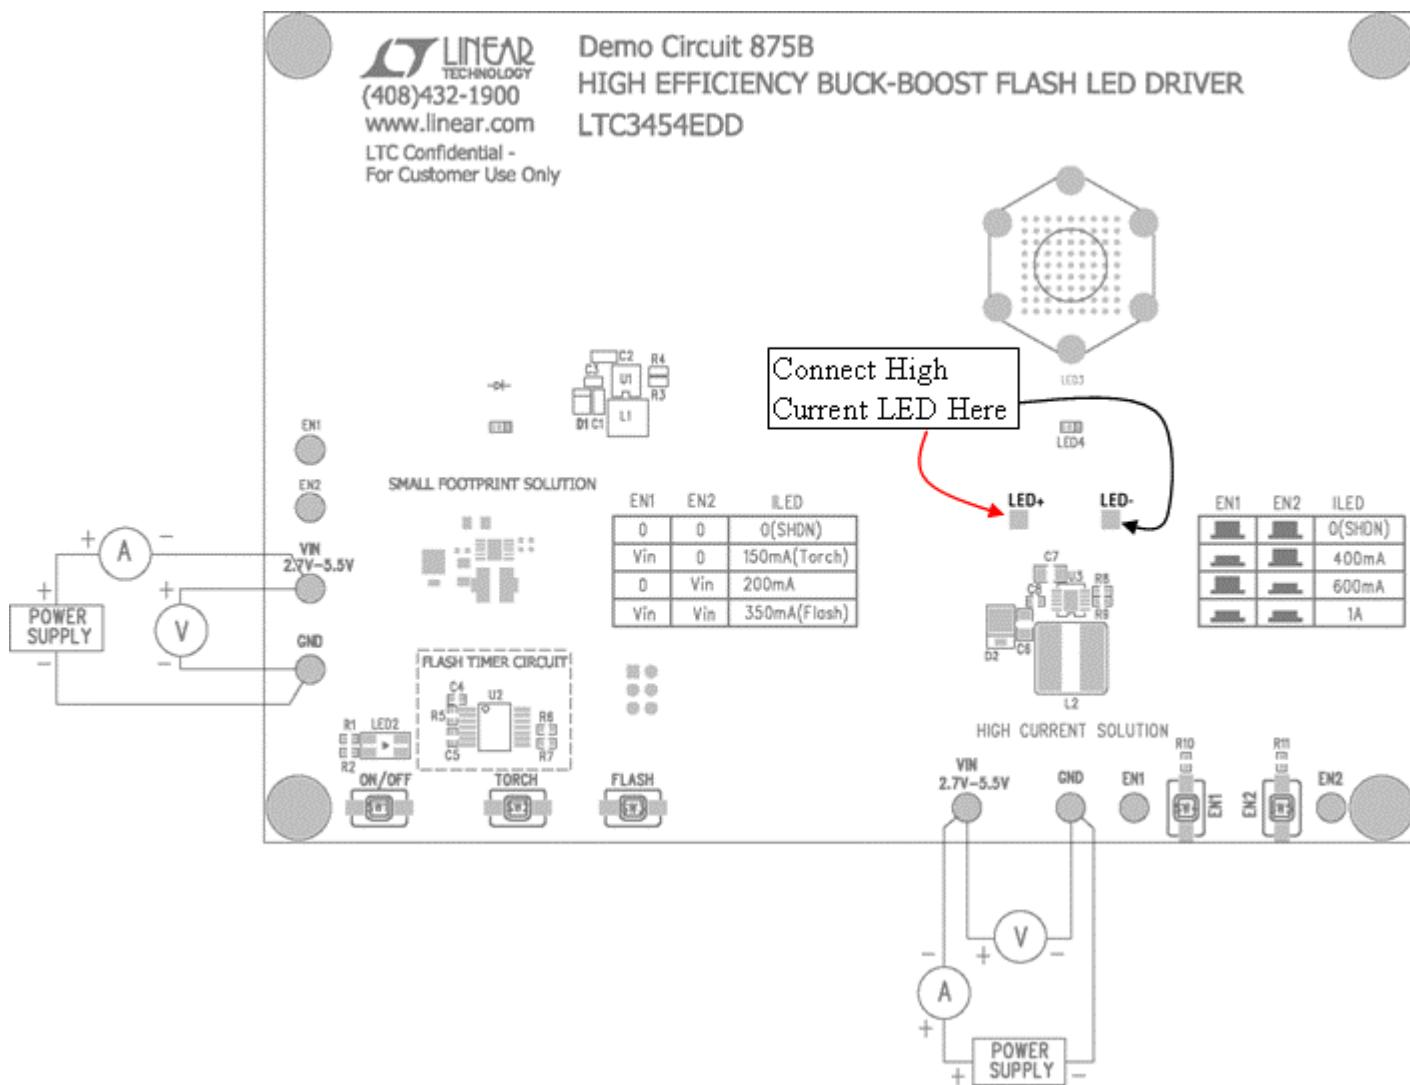

Figure 1. Proper Measurement Equipment Set
Demonstration circuit 875 is easy to set up to evaluate the performance of the LTC3454EDD. Refer to Figure 1 for proper measurement equipment setup and follow the procedure below:
2. Connect a high current LED capable of handling 1A of current to the LED+ and LED- thru-holes as shown on Figure 1.